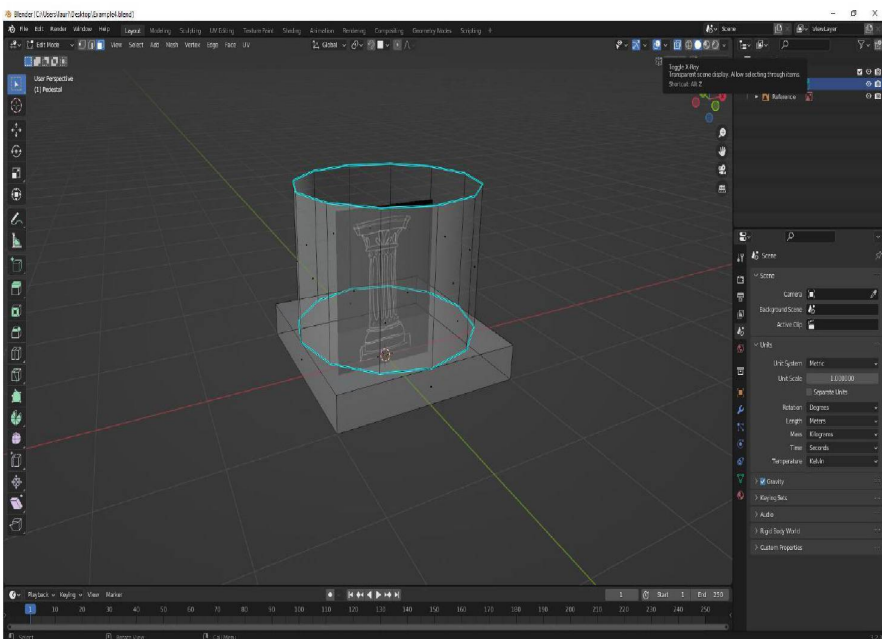

Figure 4.18: Transparent scene display mode toggled via the X-Ray icon in the upper right 3D Viewport
2. Enable this **transparent display mode** via the X-Ray icon in the upper right hand menu bar of the 3D Viewport, appearing as a cube with back edges visible as shown in *Figure 4.18*, or press **Alt + Z** as the tooltip suggests: